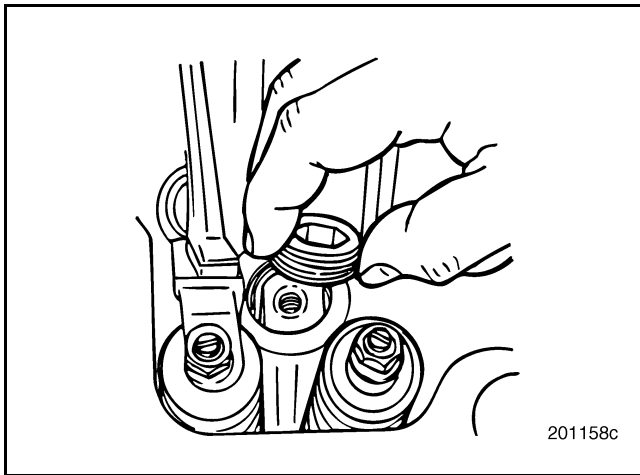

Figure 376 — Retaining Plug Installation
8. Lubricate the threads of the retaining plug and install it as shown in Figure 376. Tighten the plug to the specified torque, 45 lb-ft (61 N•m), using torque wrench J 24407, or equivalent.